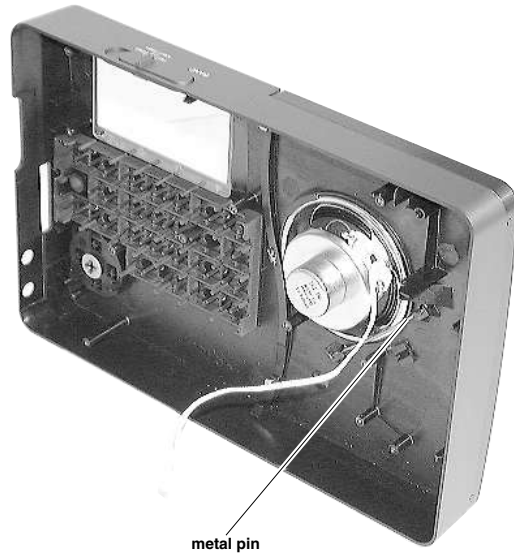

Fig. 6
- (1) Remove 4 screws ⑱ from the Main Board.
5. Removal of Speaker (Fig. 6)